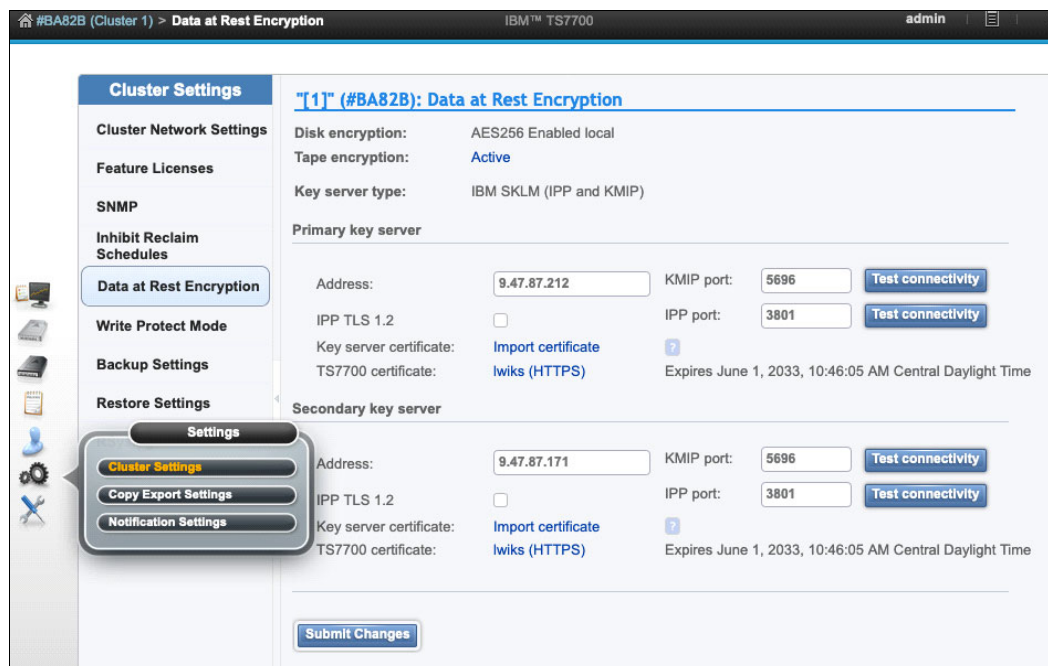

Figure J-4 Data at Rest Encryption window (KMIP and IPP to be configured)
- ▶ Figure J-2 shows a configuration in which the TS7700 disk cache is not externally key managed. If it is externally key managed, more options might be visible on this page, as shown in Figure J-4 on page 1021. Any displayed KMIP options are not applicable to physical tape encryption. Only IPP options apply to physical tape encryption.
Physical tape encryption also uses IPP. Therefore, settings might exist for KMIP and IPP, based on your hardware configuration (see Figure J-4).
It is a best practice to have two configured EKMs, which are replicas of each other for redundancy. The TS7700 must know the IP addresses or DNS style names of the target EKMs. This configuration can be done by using the Data at Rest Encryption page by selecting **Settings** → **Cluster Settings** (see Figure J-4 on page 1021).